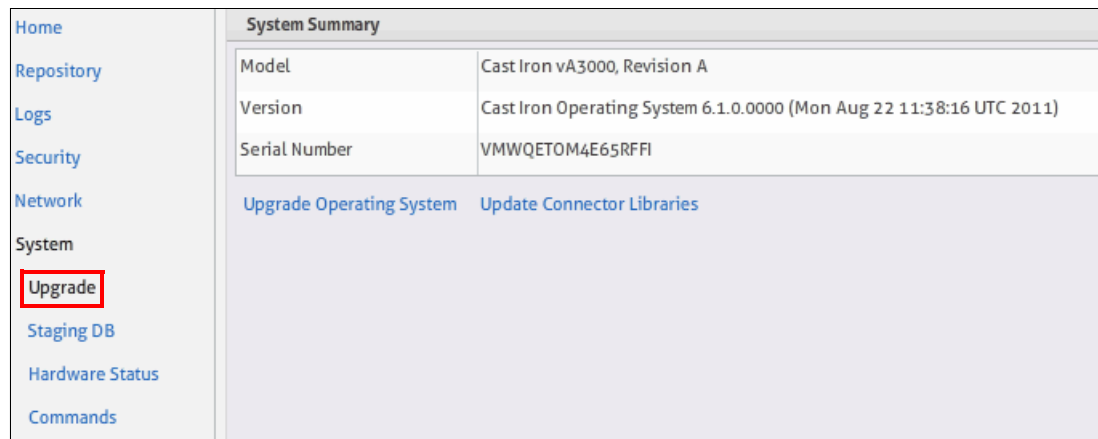

Figure 4-106 Upgrade page
4. Click **Upgrade Operating System**, as highlighted in Figure 4-106.